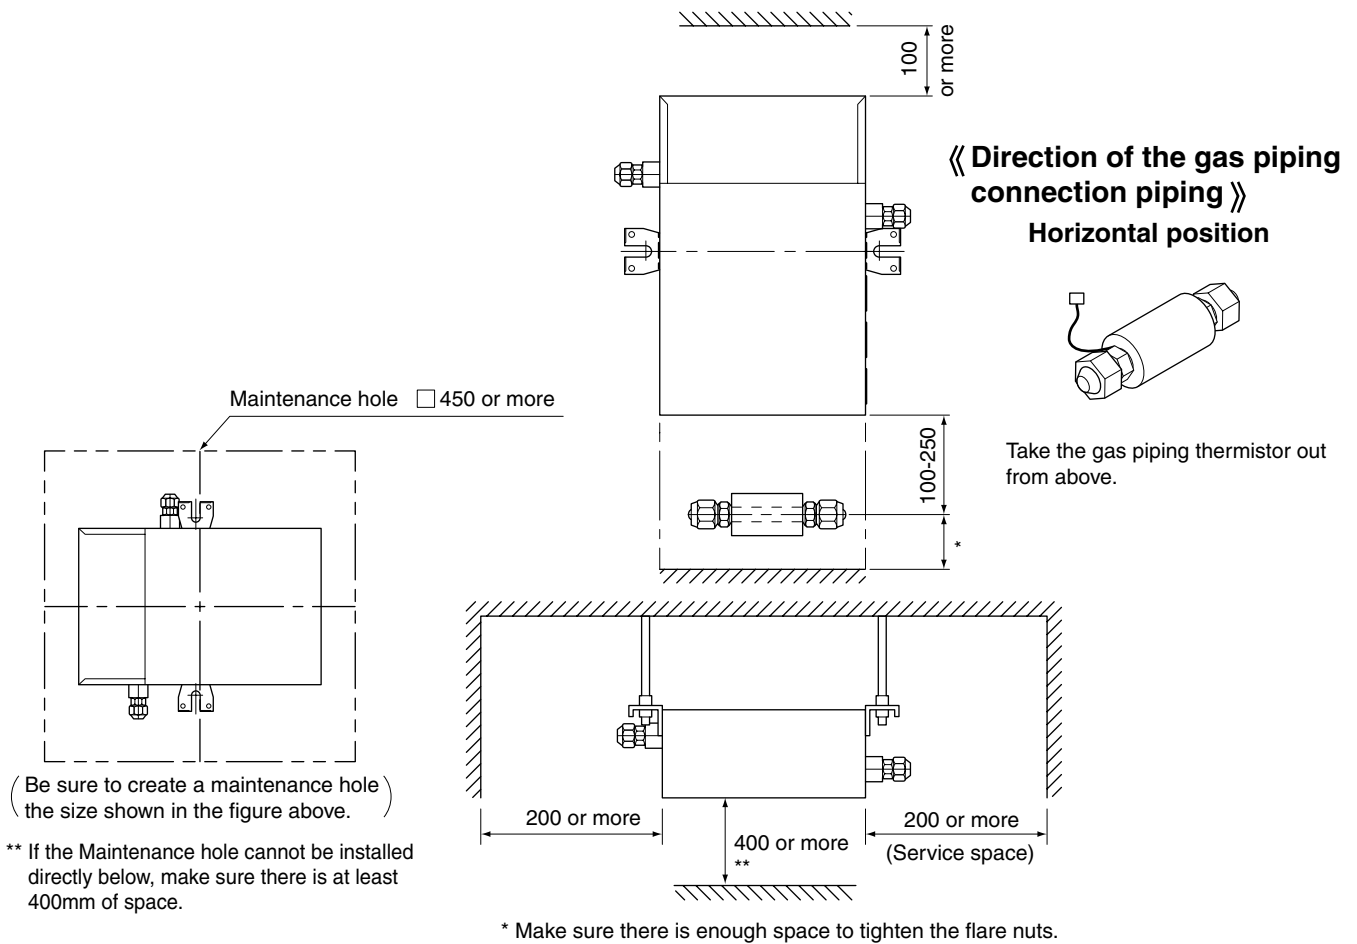

Fig. 1
(1) Select an installation site where the following conditions are fulfilled and that meets your customer's approval.
- Locations where a maintenance hole can be installed. **(Refer to Fig. 1)**
(2) After considering whether the location the unit is to be installed can support its weight, if it seems dangerous, install it after reinforcing the location with boards, crossbeams, etc.
(3) Install the gas piping connection piping (7) no further than 250mm from the hole for the thermistor on the unit. (Refer to the "8-1 HOW TO CONNECT WIRINGS")
(4) Avoid any contact with the ceiling surface, as this may cause noise and vibration.